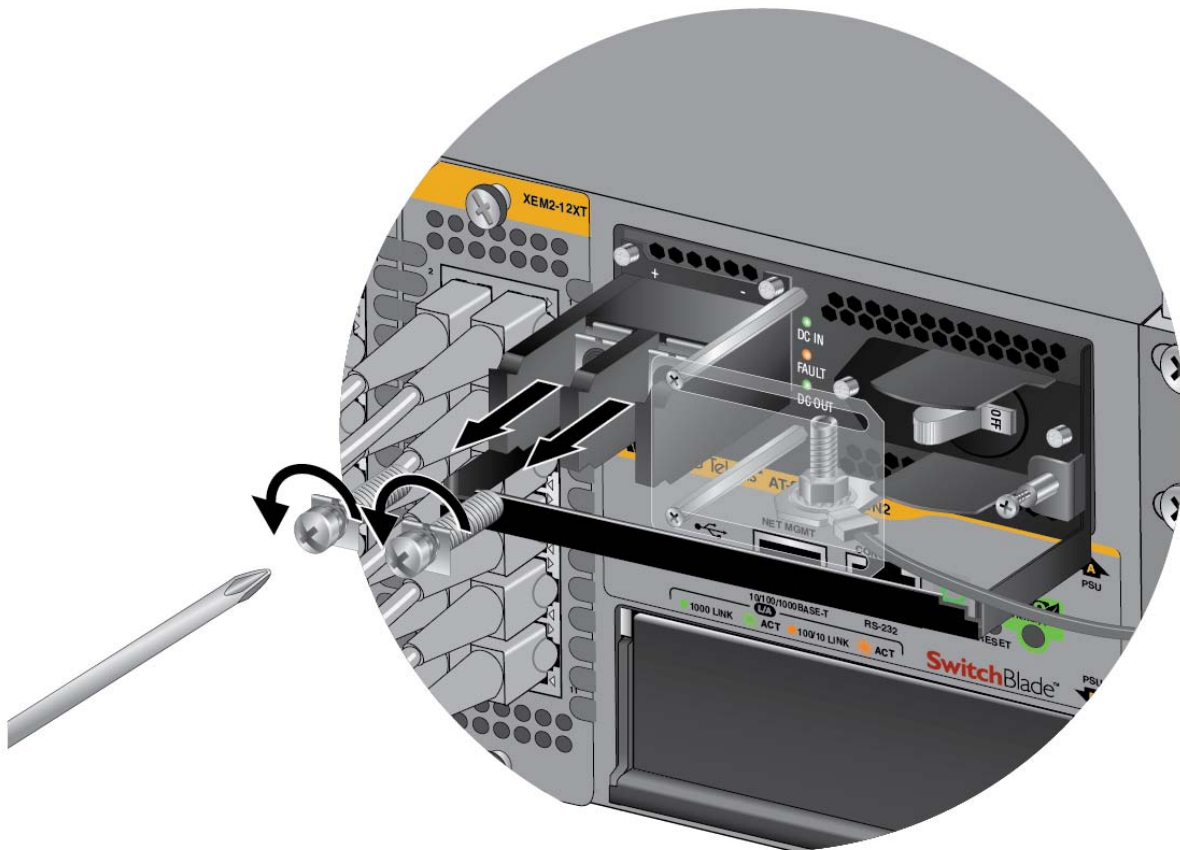

Figure 71. Removing the Terminal Screws
5. Use a #3 Phillips-head screwdriver to remove the two screws from the positive and negative terminals, as shown in Figure 71 on page 106.
3. Use a #3 Phillips-head screwdriver to remove the two screws from the positive and negative terminals, as shown in Figure 71 on page 106.